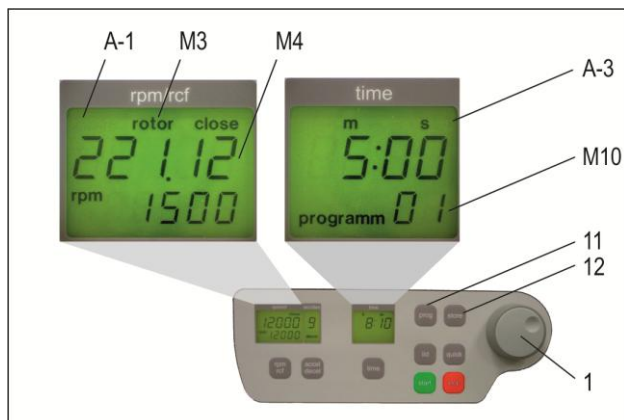

Figure 24
Put the desired rotor into the centrifuge. By pressing the key, "prog" (11), in the display "time" (A-3) appears the word "program", (see Figure 24). With the adjustable knob (1), choose the desired program number.
If a program number is already occupied, in the display "rpm/rcf" (A-1), the words "rotor" (M3) and "22x.xx" (M4) will appear, (see Figure 24). Free program numbers will appear as 0.